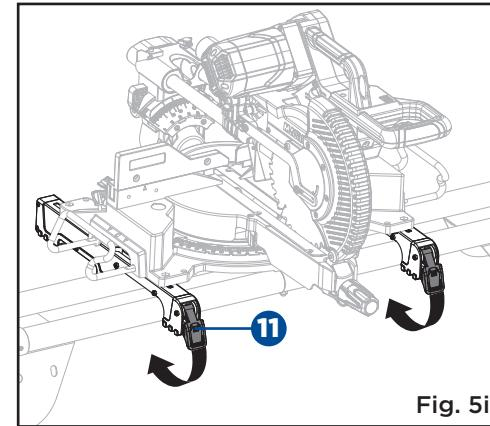

Fig. 5i
- Lower the bracket assembly to allow the rear edge of the bracket to seat fully over the rear rail and lock the brackets in position by lowering the locking levers (11) (Fig. 5i).